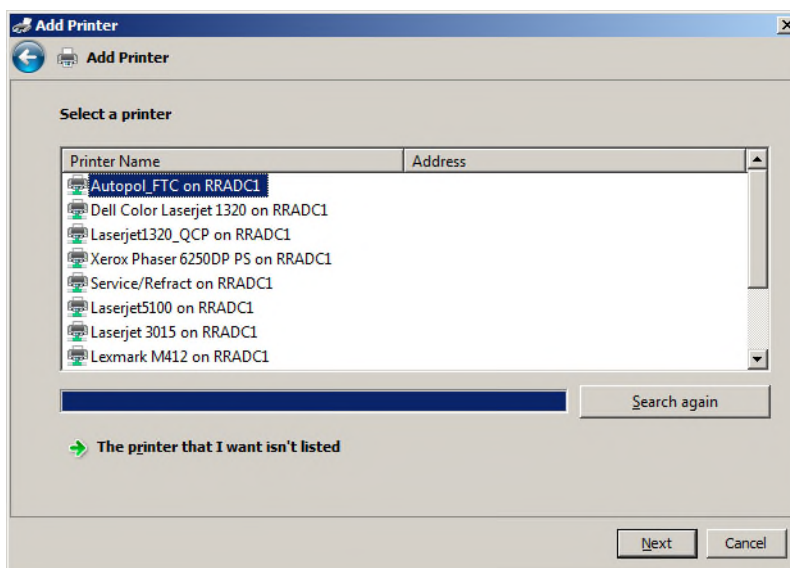

Figure 10.29 – Select Printer Driver
- 11) On the next window for Device Type: **choose Autodetect**. For Hostname or IP address enter the Hostname or IP address. For Port name should automatically fill in as you enter the IP address as shown below in Figure 10.29